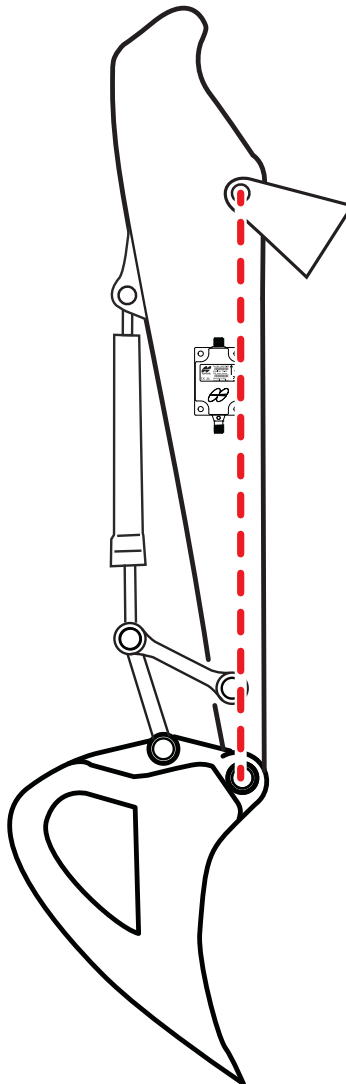

Figure 66: Stick at -90°
4. Position the stick at -90° (Figure 66 on page 49).